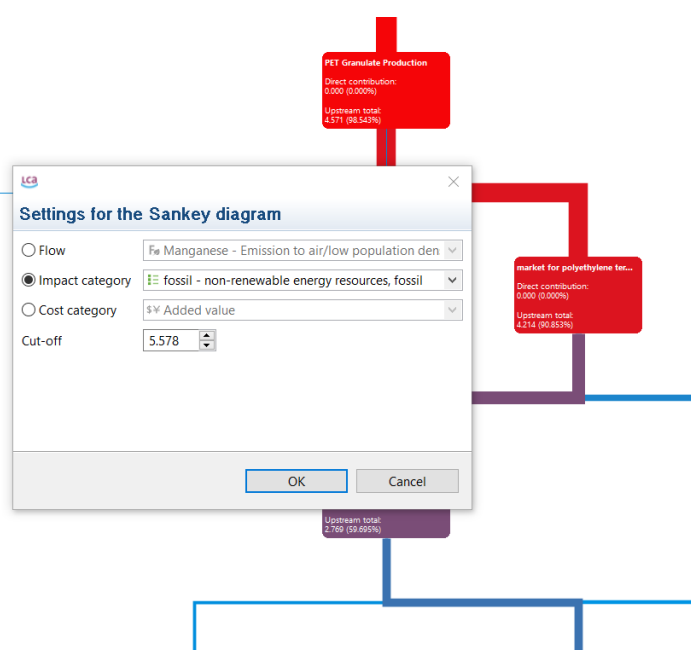

Figure 132: Analysis - Sankey diagram
- “Set Sankey diagram options” to select the flow or impact or cost category (If the box “Include Cost Calculation” is checked when setting the calculation properties, see section 8.4), and cut-off level to be displayed (Figure 132).